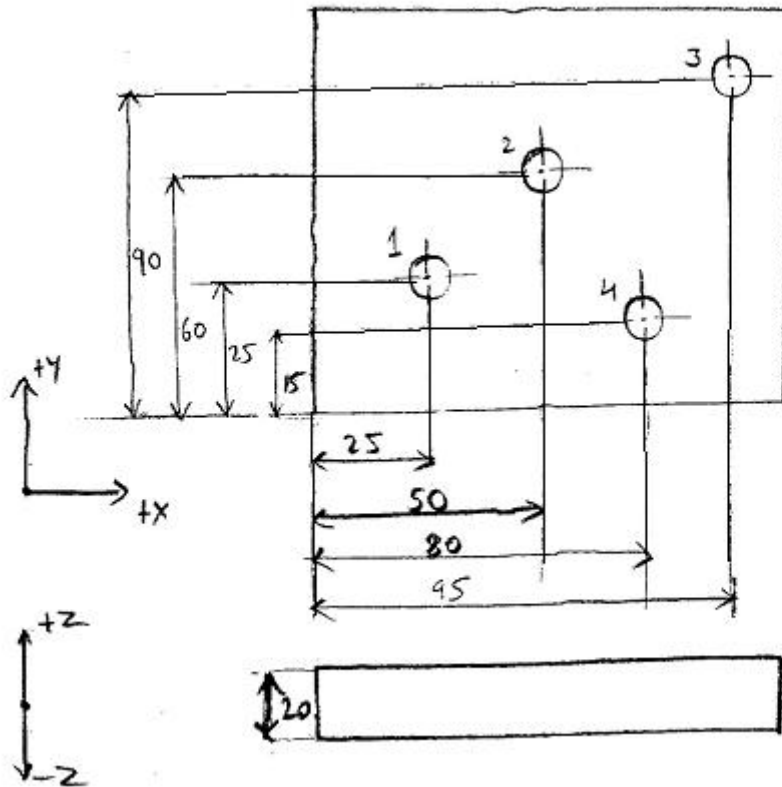

fig 2
b) Write a part program for the part shown in the figure.2 below. The plate thickness is 20mm. All dimensions are in mm. 5